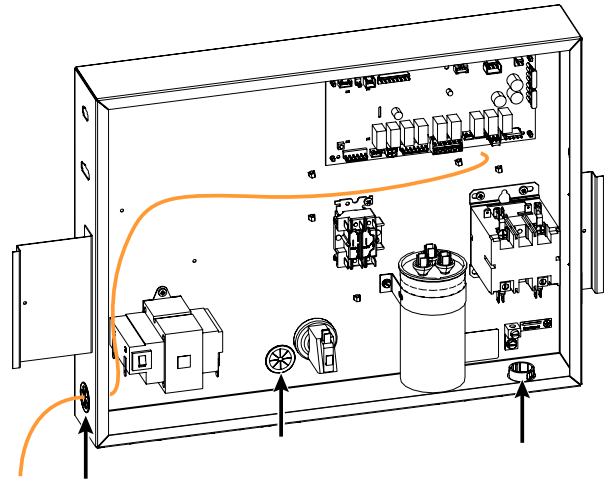

Figure 130. Grommets in Control Box
7. Use the grommets in the control box to run wires from inside the corner post to the inside of the box, up to the control board terminal(s). See Figure 130.